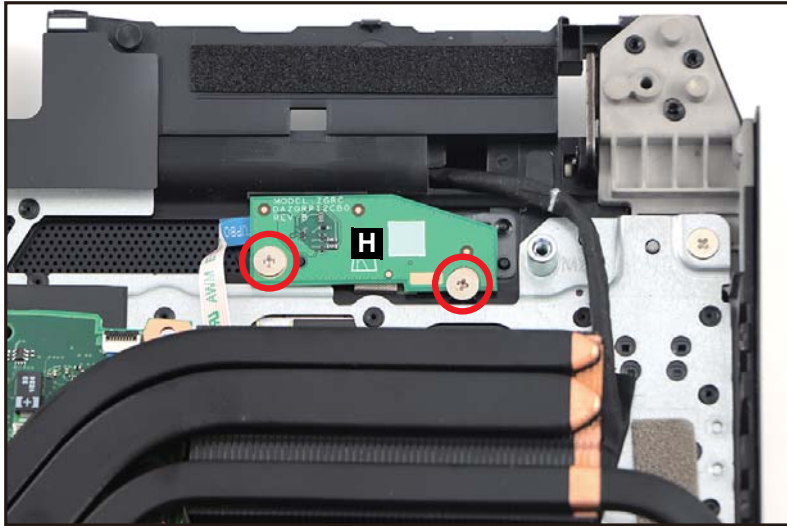

Figure 1-29. Mainboard Removal
- Place aside the mainboard with the heatsink so that you can access the turbo key board (H). Then remove two (2) screws securing the turbo key board (Figure 1-29).